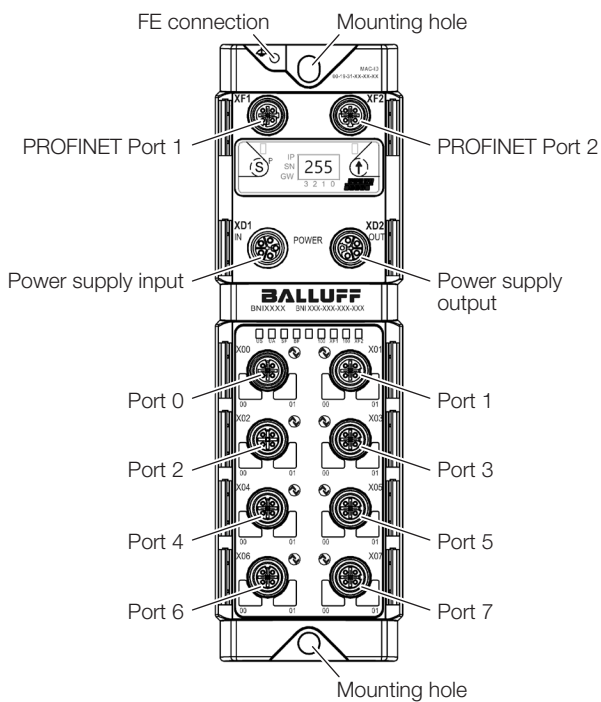

Fig. 4-2: Device overview
- ▶ Fasten the module with 2 M6 screws and a maximum tightening torque of 3 Nm using the mounting holes (see Fig. 4-2 on page 8).